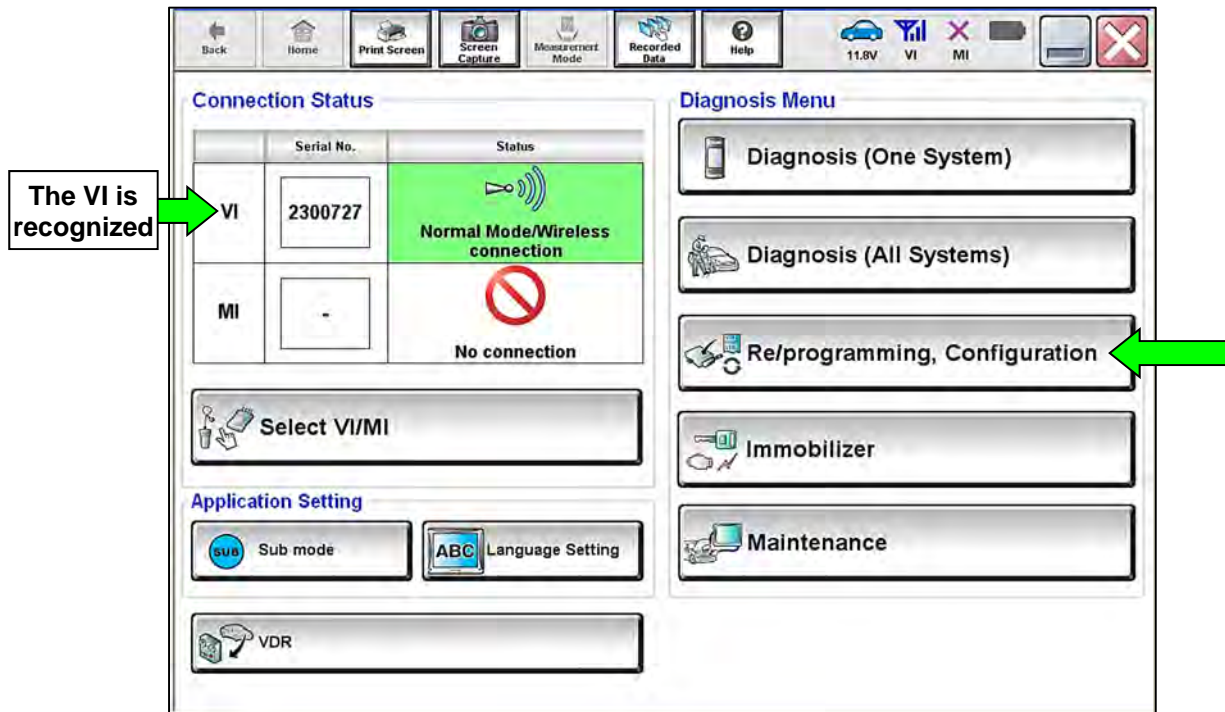

Figure 59
- The serial number will display when the VI is recognized (Figure 59 on page 24).